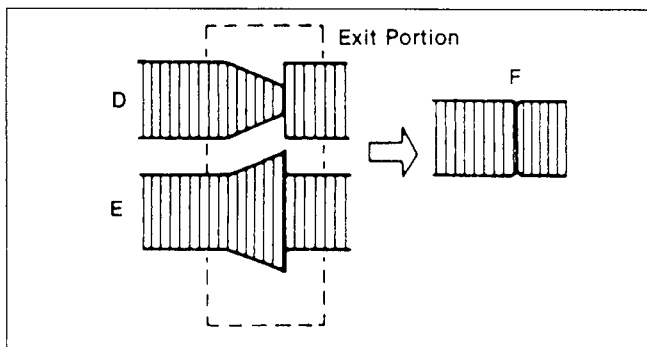

Figure M26-C
5. Adjust the tape guide post (P2) with the post adjustment screwdriver so that the RF envelope waveform at the entrance portion becomes flat as shown in Figure M26-D.